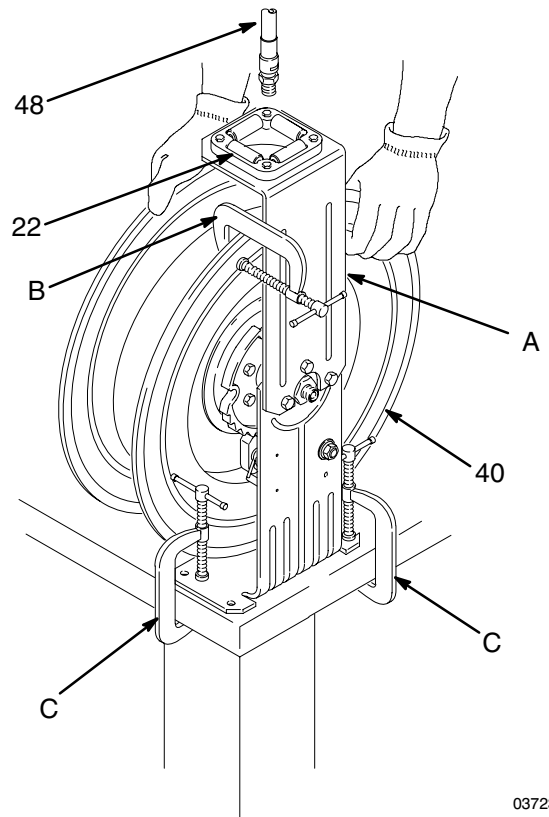

Fig. 17
3. Clamp the reel base securely to a bench with C-clamps (C).
4. Fully extend the service hose (48), and latch the hose reel.
5. Attach a C-clamp (B) to the hose reel flange to help prevent the reel from unintentionally becoming unlatched and spinning freely. See Fig. 17.
7. Carefully remove the C-clamp (B).
8. Wearing heavy gloves, hold the reel with both hands and let it slide slowly through your hands until the reel stops. See Fig. 17. When the reel stops the spring tension has been released.